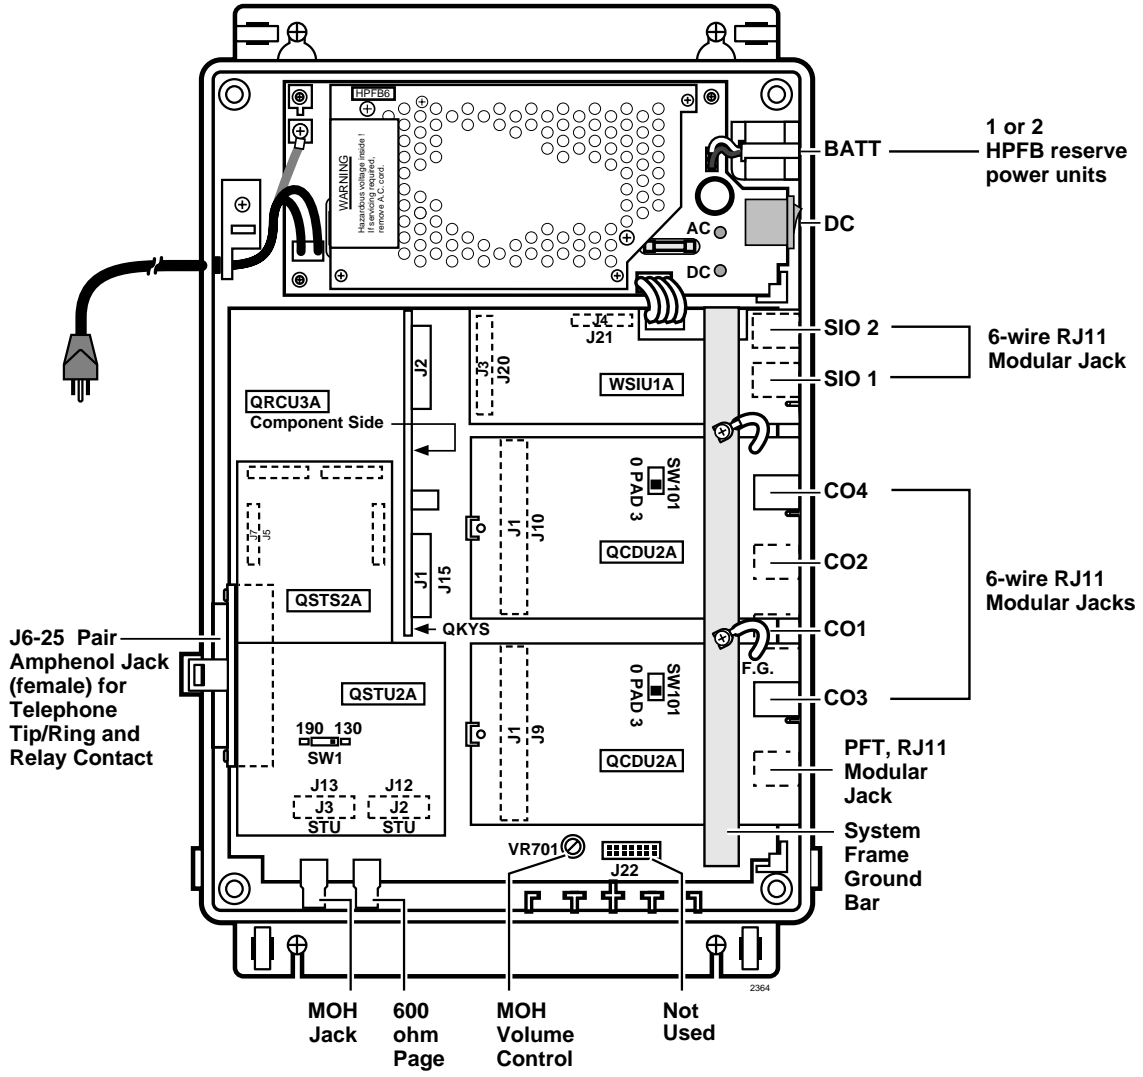

Figure 1-9 DK14 PCB Installation
- ♦ The KSU does not come from the factory with any option PCBs installed. Each of the option PCBs must be installed in specific locations. (See Figure 1-9.)
Connect the MOH/BGM source to the MOH RCA jack (Figures 1-9 and 1-16) in accordance with Music Source Configuration A in Chapter 10 – Peripheral Installation.
Connect the external page system to the 600ohm PAGE RCA output jack (Figure 1-9) to an external amplifier in accordance with the External Page Installation guidelines in Chapter 10 – Peripheral Installation.